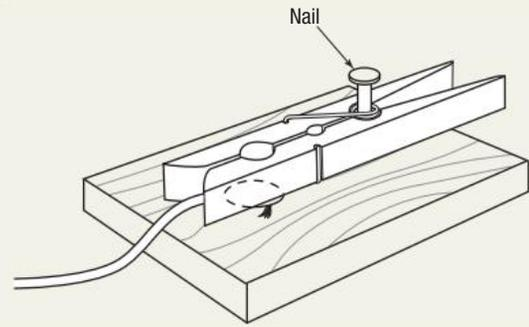

Figure 8.18 Fix the clothes peg to the timber with a nail.
- 2 Nail the clothes peg into the wood, so that the hole of the peg is directly above the drawing pin, as shown in Figure 8.18.